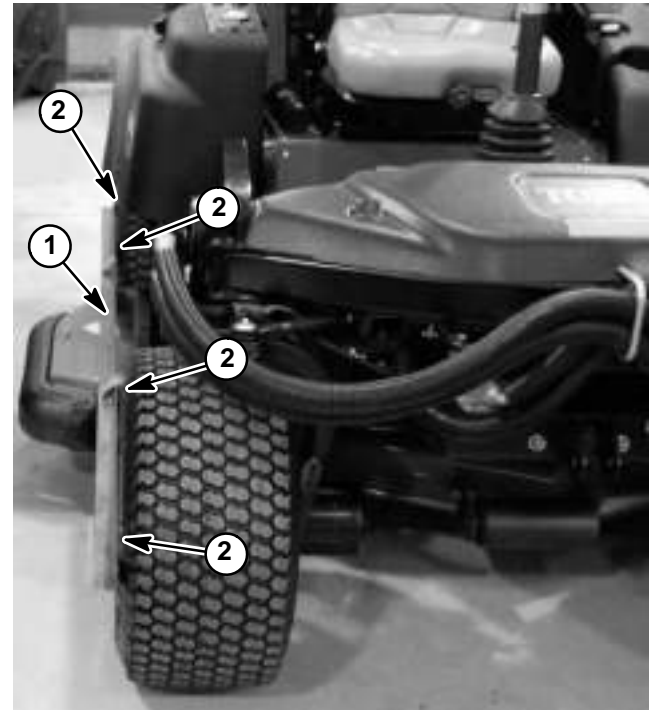

Figure 19
Before performing an adjustment to the steering home sensor, make sure that front and rear wheels are aligned in a straight ahead position. A rigid straight edge (e.g. angle iron or metal pipe) at least 80 inches (2 meters) long can be used to confirm wheel alignment. Place the straight edge across the sides of both front and rear tires to confirm wheel alignment. The straight edge should contact both front and rear tires at two (2) points when wheels are aligned (Fig. 19). If necessary, turn steering wheel until front and rear tires are aligned with the straight edge. Once front and rear wheels are aligned, proceed with steering home sensor adjustment.